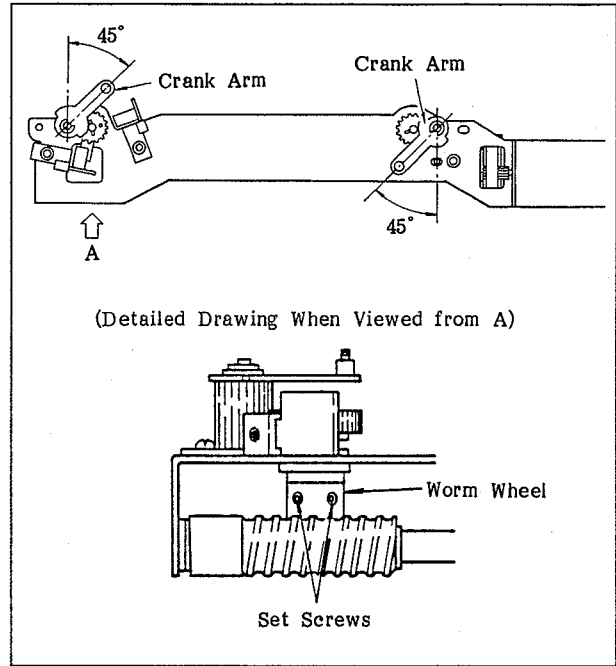

Fig. 6-44 Replacing the Worm
3. Remove the timing belt, shift motor, and timing pulley (L) in that order.
5. Turn the S-side and T-side crank arms into the directions shown in Figure 6-44. Then, assemble the worm, worm shaft, worm bearing holder, and poly-washer bearing.
6. Insert the timing pulley (L) so that the D cut surfaces of the worm shaft match the two tap holes of the timing pulley. Then, insert a 0.5 mm thickness gauge between the bearing and timing pulley (L) and fasten the timing pulley by securing with two set screws while pushing the timing pulley (L) into the bearing.